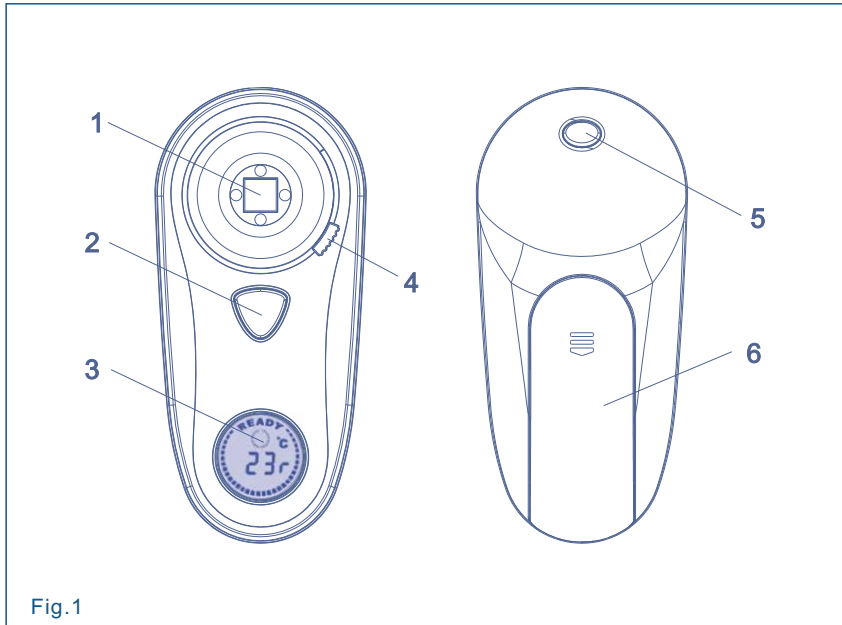

Fig.1
- 3) Open the thermometer by turning the Protective Cover Switch (fig.1-no.4). The thermometer turns on automatically. A blue ray appears which helps ensure correct positioning of the probe when taking the measurement. In fact, this ray indicates the exact point where the reading will be taken. Wait until the “READY” message appears before taking the reading.
- 4) Position the thermometer's detector (fig. 1-no. 1) at a distance of not more than 10 cm (4 inch) and not less than 0.5 cm (0.2 inch) from the forehead. Press the "Measurement" button (fig. 1-no.5) and explore the entire temple area. The best position is above the left side of the left eyebrow or above the right side of the right eyebrow, just under the hairline.
- 6) The thermometer turns off automatically 1 minute after the measurement has been completed. To turn off the blue positioning ray, turn the Protective Cover Switch (fig.1-no.4). Ensure this step is carried out to avoid draining the battery and damage to the sensor when thermometer is not in use.
The memory function records 8 readings and remembers them for 64 hours. The last reading performed before the thermometer is turned off is recorded to memory. To use the memory function, turn the Protective Cover Switch (fig.1 - no. 4), press the "Memory" button (located under the probe, fig.1- no. 2) and release it. The display alternates the following information four times:
Open the thermometer by twisting the Protective Cover Switch; turns off automatically after 1 minute; press the “Memory” button (fig.1-no.2) to change from °C to °F readings and vice versa.
There is a general thermometer function problem.	Reset the thermometer by pressing the "Measurement" (fig.1-no.5) and "Memory" (fig.1-no.2) buttons simultaneously and keeping them pressed for 3 seconds. If the thermometer still does not function, see page 11, Warranty section for further information.